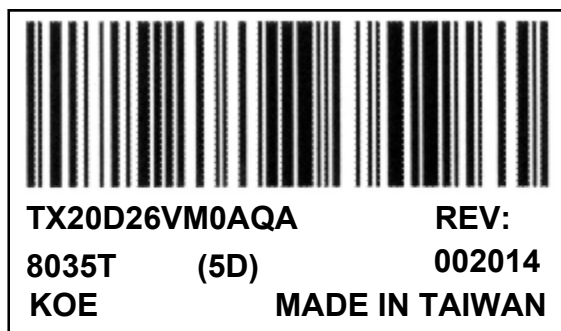

Fig. 14.3
- 1) The lot mark is showing in Fig.14.3. First 4 digits are used to represent production lot, T represented made in Taiwan, and the last 5 digits are the serial number.
- 4) The location of the lot mark is on the back of the display shown in Fig. 14.3.